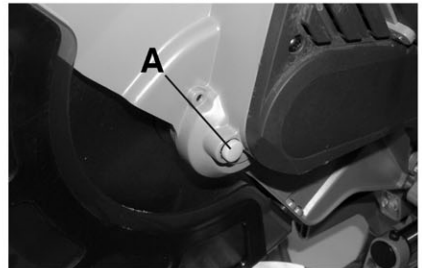

Figure 20
6. Completely depress the spindle lock button (A) Fig. 20 using one hand. Rotate the blade by hand until the spindle locks.